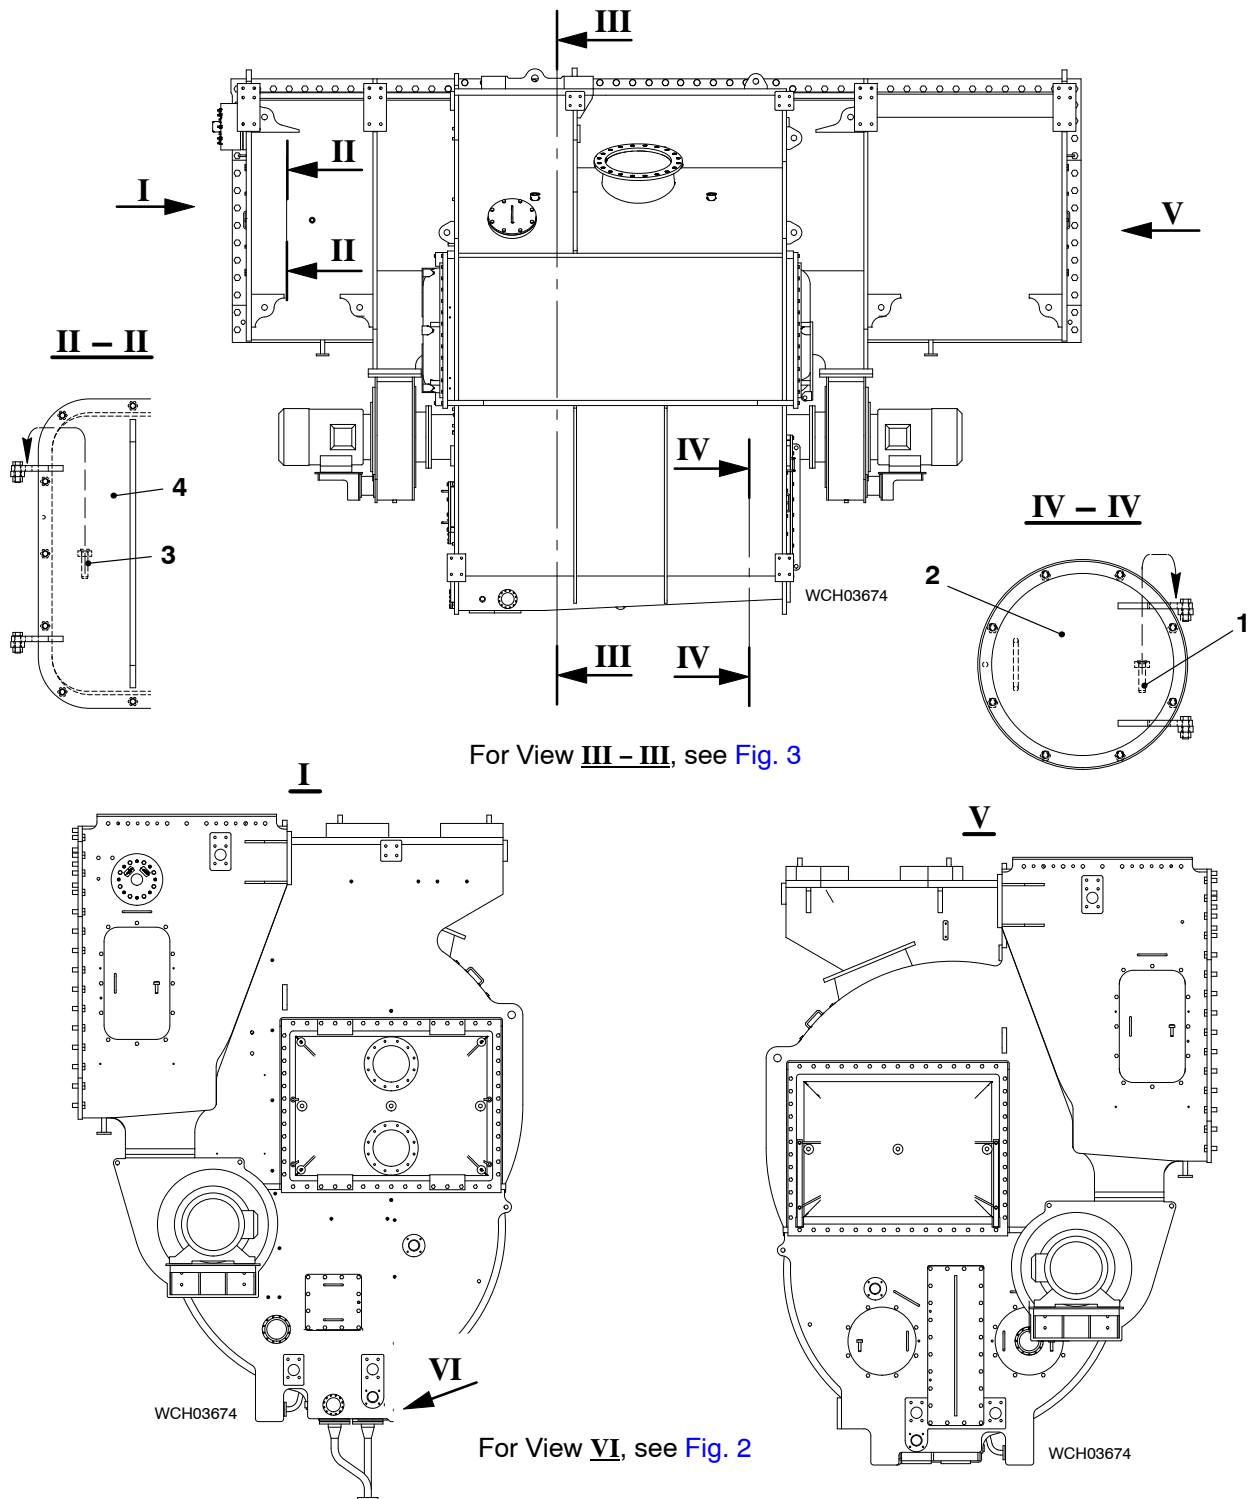

Fig. 1: Scavenge Air Receiver
- 1) Open the covers (2 and 4, Fig. 1).